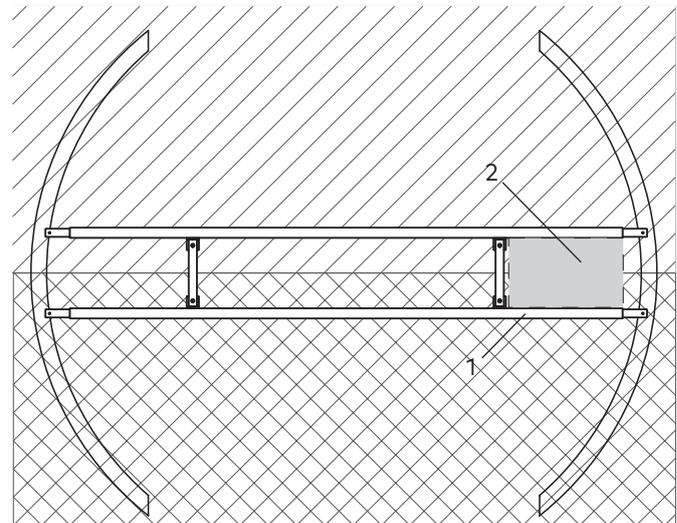

Fig. 56 Assembling the controller and power supply unit for night shield
5. Fix controller and power supply unit (Fig. 56/2) for the night shield on center support (Fig. 56/1) on the inside of the building (Fig. 56).